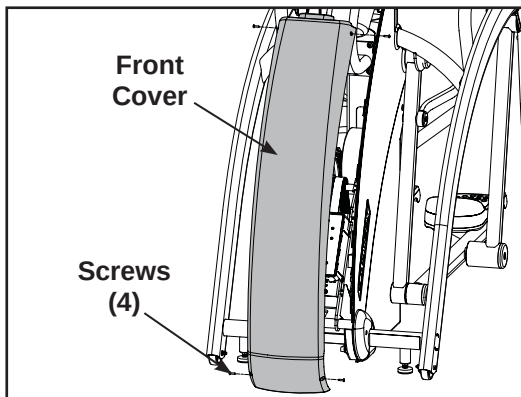

Figure 4
- A. Using a Phillips screwdriver, remove the four screws securing the front cover. See Figure 4.